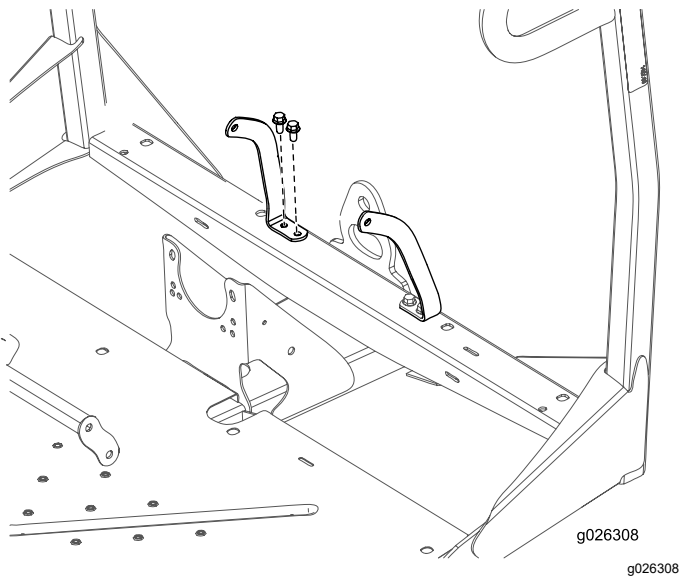

Figure 11
5. Secure the left and right seat-belt anchor to the front frame with 4 bolts (3/8 x 3/4 inch) and 4 nuts (3/8 inch) as shown in Figure 11.